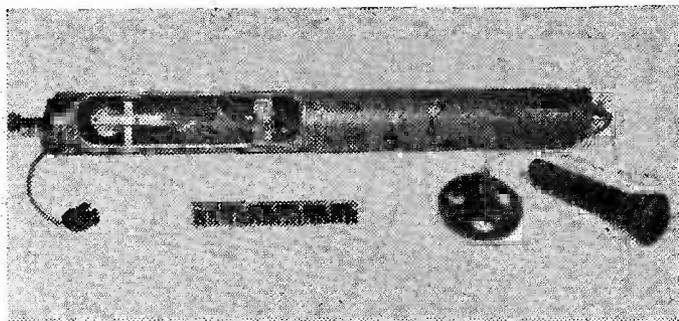

Fig. 7.—The trailing aerial and its holder.
The trailing aerial which is wound on a spool projecting from a coaxial tube (Fig. 7) is of stranded steel (believed to be zinc-coated), 0.07 in. overall diameter and 150 ft. long. The spool is of a non-rotating type and consists of a horizontal thick-walled tube 9.5 in. long, 1 in. diameter, while the coaxial tube is 2.3 in. outer and 2 in. inner diameter. The whole unit is of low-grade, resin-bonded paper. An electromagnetic release, operated simultaneously with the relay (R) in the transmitter unit, is fitted in the tube, and a circular disc is attached to the end of the aerial to provide sufficient drag to unwind the aerial.